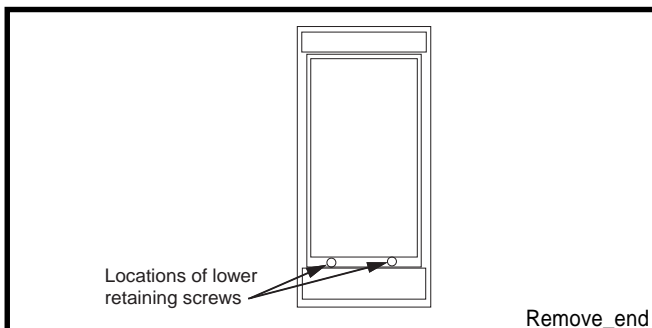

Fig. 39 Retaining screw
3. Remove both lower retaining screws. Access to these screws is gained through the holes along the lower edge of the frame behind the trim (Fig. 39).